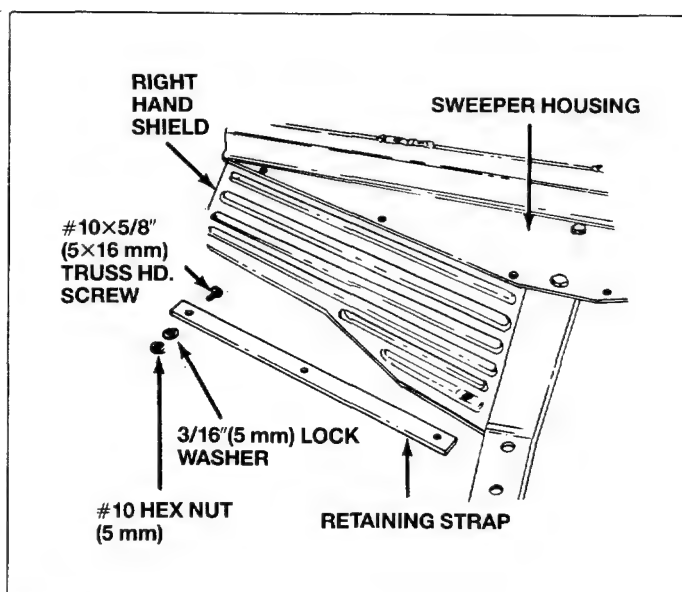

Fig. 4
3. Assemble the right and left hand shields to sweeper housing, using six #10×5/8" (4×16 mm) truss head screws, lock washers, hex nuts and two retaining straps. See figure 4. Place the retaining straps under shields and sweeper. Next place truss screws down through housing and strap, secure with lock washer and hex nut. Tighten shields and hitch bar securely.